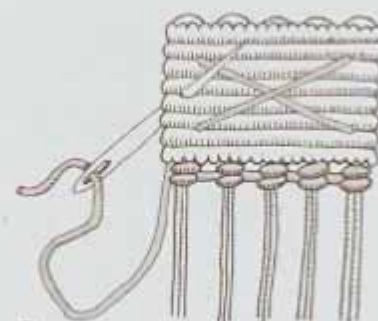

Fig. 8
6. Flip the earring to the front and sew through the 3rd opening from the left in the area between rows 6 and 7. This should form an even "X" on the front of the earring (see Figure 8).
7. Flip the earring to the back and sew through the 2nd opening from the right in the area between rows 4 and 5 (see Figure 8).